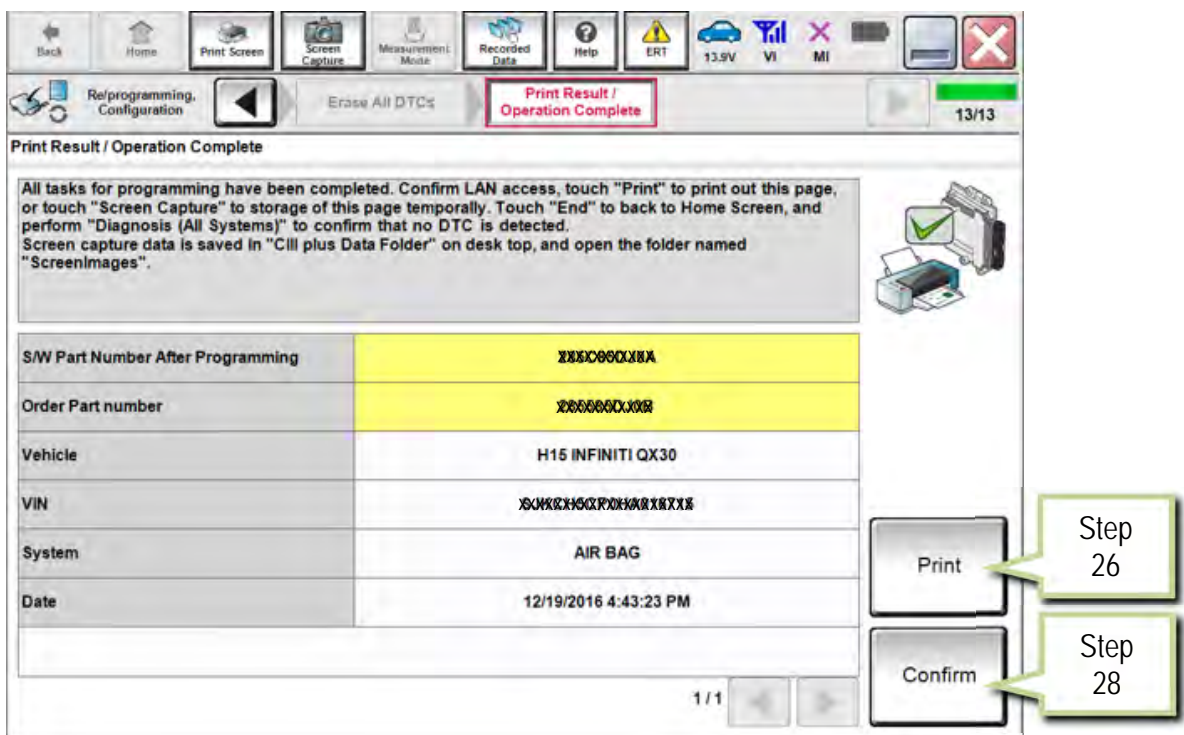

Figure 19A
27. Print a copy of this screen (Figure 19A) and attach it to the repair order for warranty documentation.